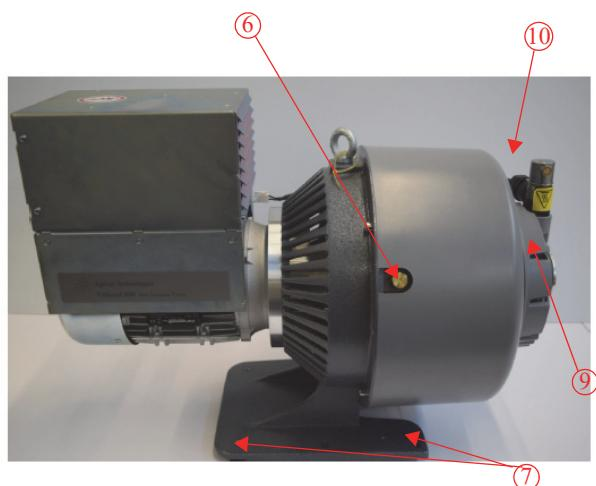

Figure 1 TriScroll 800 Inverter Vacuum Pump
The pump incorporates an automatic gas ballast to prevent water and other condensates from accumulating within the pump. The standard configuration is a sintered filter installed in the 1/4" National Pipe Thread gas ballast port (item 8 on Figure 1 on page 30). This allows enough atmospheric air to enter the pump in order to purge condensates while not affecting pump ultimate pressure or pumping speed.
For applications where the ingress of atmospheric air is undesirable, dry nitrogen at a flow rate of ≈ 5 lpm can be bled into the gas ballast port. See item 8 on Figure 1 on page 30. Blocking of the gas ballast port is not recommended.
A 1/4" National Pipe Thread bearing purge port (item 5 on Figure 1 on page 30) protects the main crankshaft bearings in applications where large amounts of water are being pumped. In the standard configuration, this port is sealed.